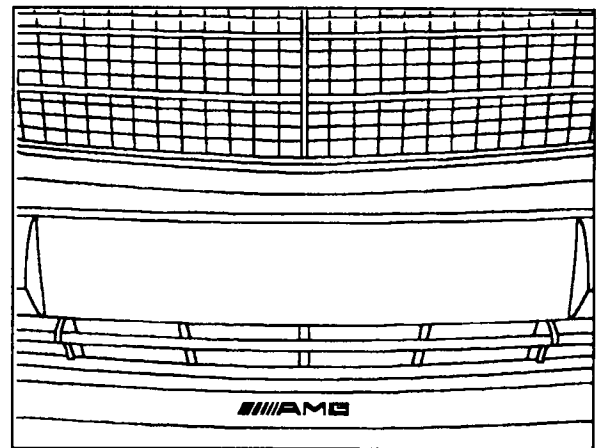

Figure 8
20. Warm AMG logo and mounting surface to 40 °C using heat gun. Apply logo according to Figure 8.